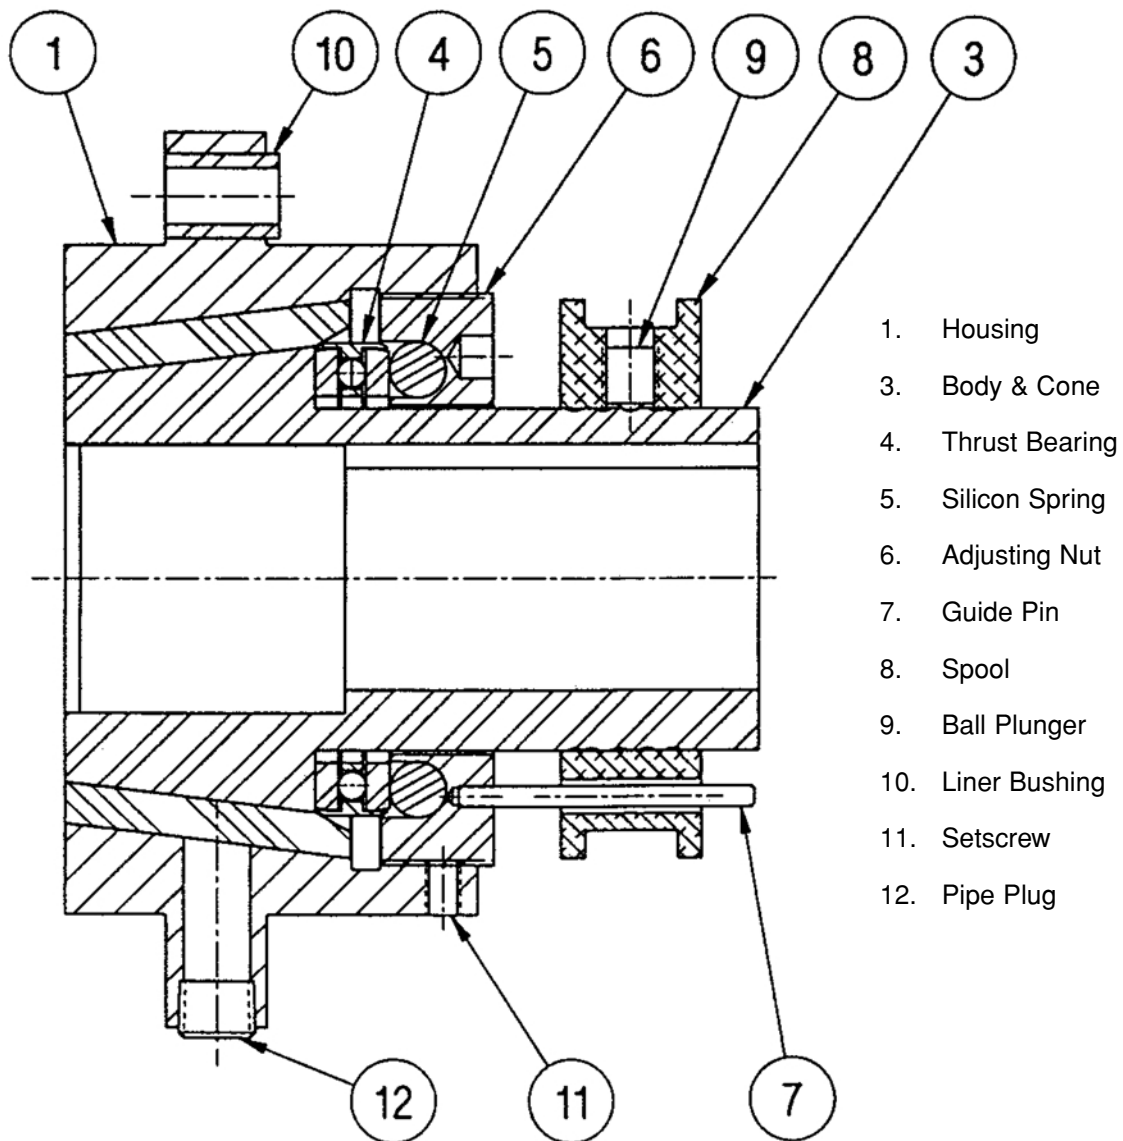
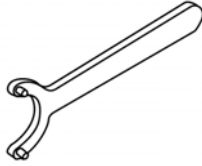

FIGURE 5
FIGURE 6
The shut-off spool (number 8, Figure 5) is attached to body and cone (number 3, Figure 5) by means of shallow round threads in body and cone (number 3, Figure 5) and a ball plunger (number 9, Figure 5) in spool (number 8, Figure 5). When the clutch is operating normally (i.e. not slipping), there is no relative movement between spool (number 8, Figure 5) and main body (number 3, Figure 5) and the remainder of the clutch, including the spool (number 8, Figure 5) driven by pin (number 7, Figure 5). This relative rotation causes the spool to move along the screw threads on the body (number 3, Figure 5). The spool will move to the left or to the right, depending on the rotation of the clutch. This lateral movement of the spool is intended to activate a limit switch arm located in the center groove in the spool. The "tripped" limit switch should be electrically connected to the controls to stop the operation of the motor driving the indexer.
Manually disconnect the power to the drive motor to prevent an accidental start-up (use O.S.H.A. approved lockout procedures), clear the cause for the overload. Then simply push or pull the spool (number 8, Figure 5) on the main body (number 3, Figure 5) to the thread engagement which is closest to the center position on the threaded portion of the body (number 3, Figure 5). Check the limit switch circuitry for proper operating conditions. The indexer can now be powered up and production resumed.
- a. Loosen cone point setscrew (number 11, Figure 5).
- b. Insert pins of spanner (Figure 6) into holes of adjusting nut (number 6, Figure 5), and turn nut clockwise one notch in the adjusting nut. This will tighten the clutch.
If clutch has not been adjusted for a long period of time, it may be necessary to turn the nut counter-clockwise several turns, and tap the face of housing (number 1, Figure 5) towards the indexer with a rubber mallet to separate (loosen) the tapers. Take note of the number of loosening turns so the adjusting nut can be re-tightened to its original position.
- c. Re-tighten setscrew (number 11, Figure 5) making sure it engages in adjusting nut (number 6, Figure 5) to prevent damage to screw threads.
NOTE: If setscrew (number 11, Figure 5) is accidentally tightened on threaded portion of adjusting nut (number 6, Figure 5), it will raise a burr. Failure to remove this burr will cause shearing of threads and jamming of nut of housing (number 1, Figure 5). To remove burr, remove setscrew (number 11, Figure 5) and rotate adjusting nut counter-clockwise until burr is in center of tapped hole in housing (number 1, Figure 5). Use a hand electric drill that fits freely into the tapped hole. Drill into the adjusting nut (number 6, Figure 5) sufficiently to remove the burr.
There are (2) setscrews (number 11, Figure 5). They are positioned so one screw is half way between the slots in the nut when the other screw engages the slot in the nut. This is to allow for fine adjustment of the clutch. DO NOT use both screws at the same time as one screw will not be over a slot and will cause damage to the screw threads.
NOTE: When clutch is not slipping, entire clutch will rotate as a single unit. When clutch is slipping body and cone (number 3, Figure 5) will not rotate with the other parts of the clutch. Small amounts of clutch slippage can be difficult to determine. To aid in providing if the clutch is slipping, use a grease pencil or felt tip marker and draw a line across face of nut (number 6, Figure 5) and along body and cone (number 3, Figure 5). If clutch is slipping, the line on nut (number 6, Figure 5) and body and cone (number 3, Figure 5) will move relative to each other.
- a. Clutches are grease packed at the factory and should not require additional lubrication. If clutch is subject to consistent slippage and heating, remove pipe plug (number 9, Figure 5) and insert your standard grease fitting, lubricate with Lithium EP grease. Do not use air pressure gun!